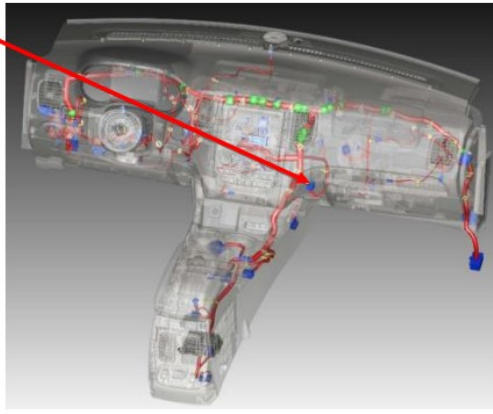

Figure 1
The 2018-present Durango has a “Gateway” module located in the underdash in the front passenger area (see Figure 1). The C-UIM data link harness T’s into an 8-pin and 12-pin connector on this gateway module.
2. Locate the Gateway module in the location shown in Figure 1.